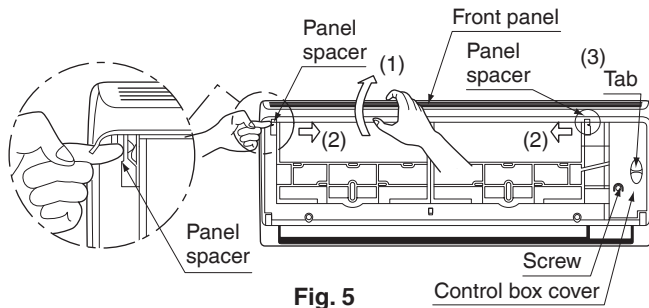

Fig. 5
(4) Remove the front panel and the control box cover. (Refer to Fig. 5)